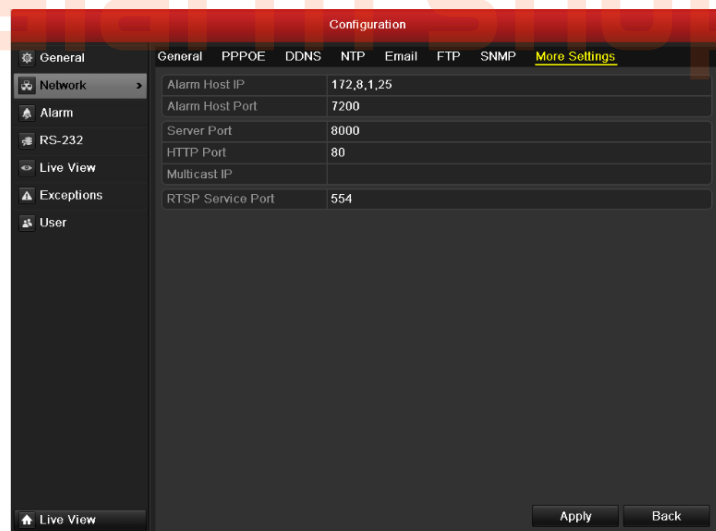

Figure 9.14 Configure Alarm Host
2. Select the **More Settings** tab to enter the More Settings interface, as shown in Figure 9.14.
2. Select the **More Settings** tab to enter the More Settings menu, as shown in Figure 9.14.